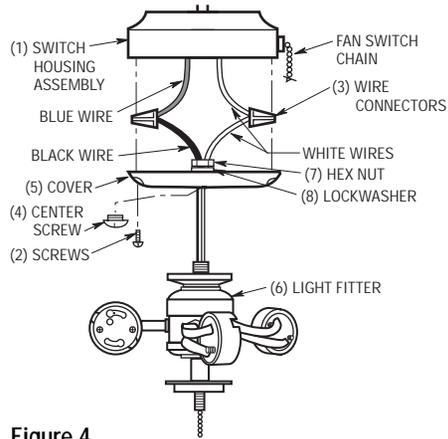

Figure 4
- Remove the cover(5) from the fan switch housing(1) by removing the two outer screws(2). (See Figure 4).
- Remove the center screw(4) from the cover(5). Insert the black and white wires from the light fitter(6) thru the hole and thread the switch housing cover tightly onto the light fitter.
- Insert the black and white wires through the lockwasher(8) and hex nut(7) supplied. Firmly tighten the hex nut to secure the light fitter to the switch housing cover(5).
- Attach the cover/light fitter(5)(6) to the switch assembly housing(1) using the two outer screws(2) that were removed in Step 2) (Figure 4).